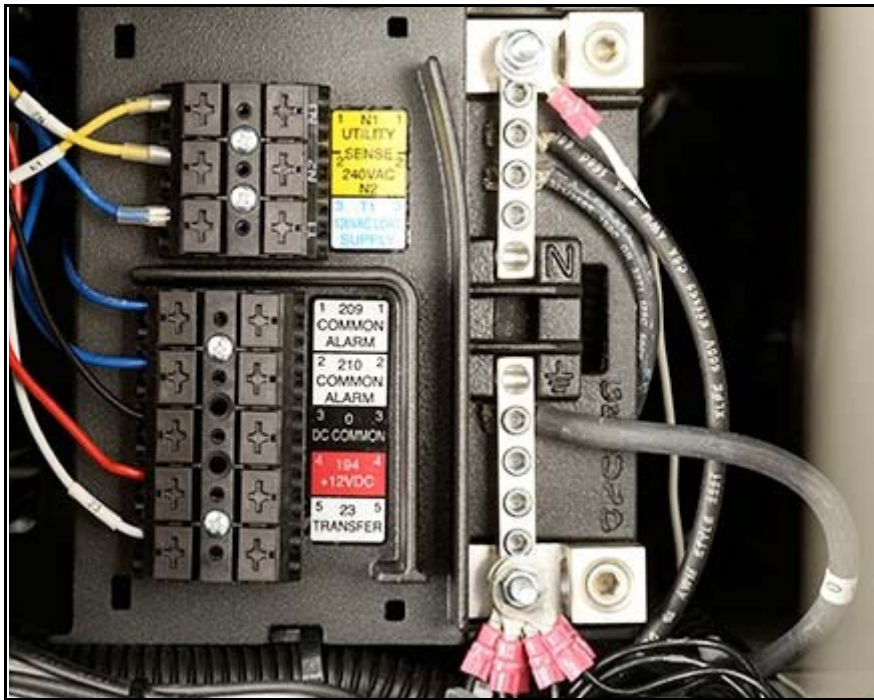

Figure 6-1. Control Wiring (Behind Control Board)
5. Connect the Neutral wire to the Neutral Lug and torque to the required specification. See Figure 6-1.
6. Connect the Ground wire to the Ground Lug and torque to the required specification. See Figure 6-1.
NOTE: Neutral Bonding - For installations that require the neutral to be bonded to the ground, this is to be done on the customer connections terminals inside the generator. Connect a suitably sized wire from the neutral bar to the ground bar. This is normally required when the generator is the source in a separately derived system. It is not required when the generator is a backup source in a utility supplied electrical system with a 2-pole transfer switch. See Figure 6-1.